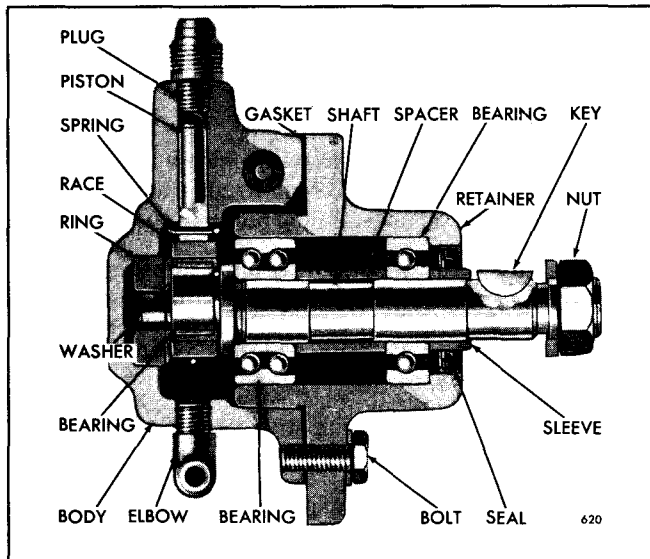

Fig. 16 - Belt-Driven Hydrostarter Charging Pump
The belt-driven charging pump (Fig. 16) is similar in design and operation to the direct engine-driven pump, but has a longer shaft to accommodate a drive pulley.
With the pump removed from the engine, refer to (Figs. 16 and 17) and proceed as follows:
After cleaning, inspection and replacing the necessary parts, refer to (Figs. 16 and 17) and proceed as follows:
- c. Place the oil seal installer J 7191-1 over the seal lip protector J 7191-2, covering the threaded end of the shaft. Then press the seal in flush with the outer face of the retainer. Refer to (Figs. 16 and 18).